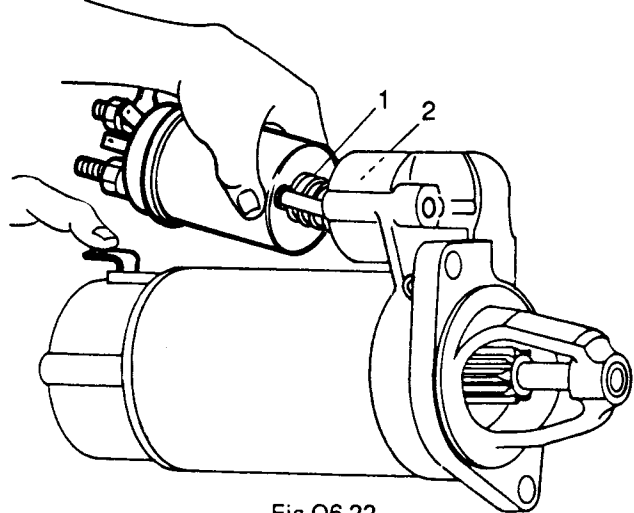

Fig O6.22
- (4) Refer to Fig O6.22. Fit the solenoid plunger into the fixing bracket. Hold the plunger (1) and use a downward push to engage the drive engagement lever (2).